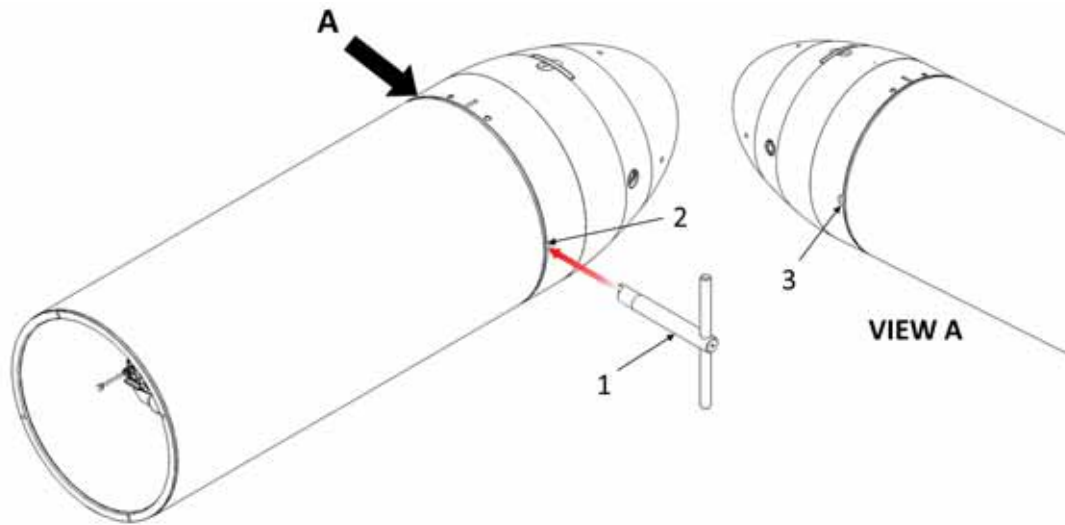

Figure 2-3 Forward assembly (Shallow or Deep).
3. Using the hull separation tool (Figure 2-3, Item 1) at locations 2 and 3 in Figure 2-3, disengage the forward hull section from the forward assembly.